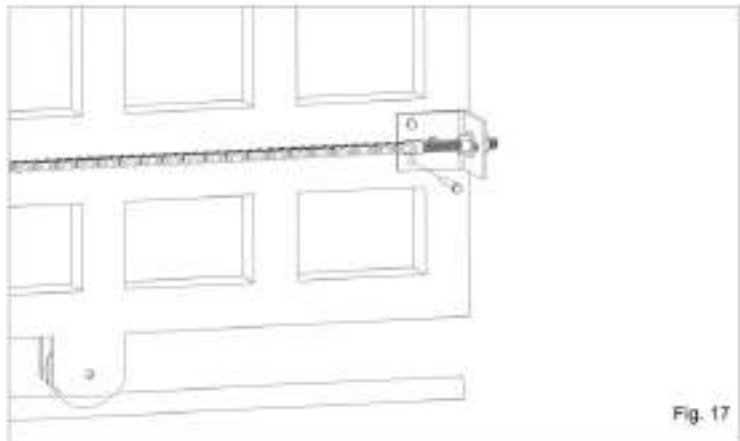

Fig. 17
5.1. Fix the angle irons, with not supplied screws, to the two extremities of the gate and fix the chain with the provided tie rod (fig. 17).